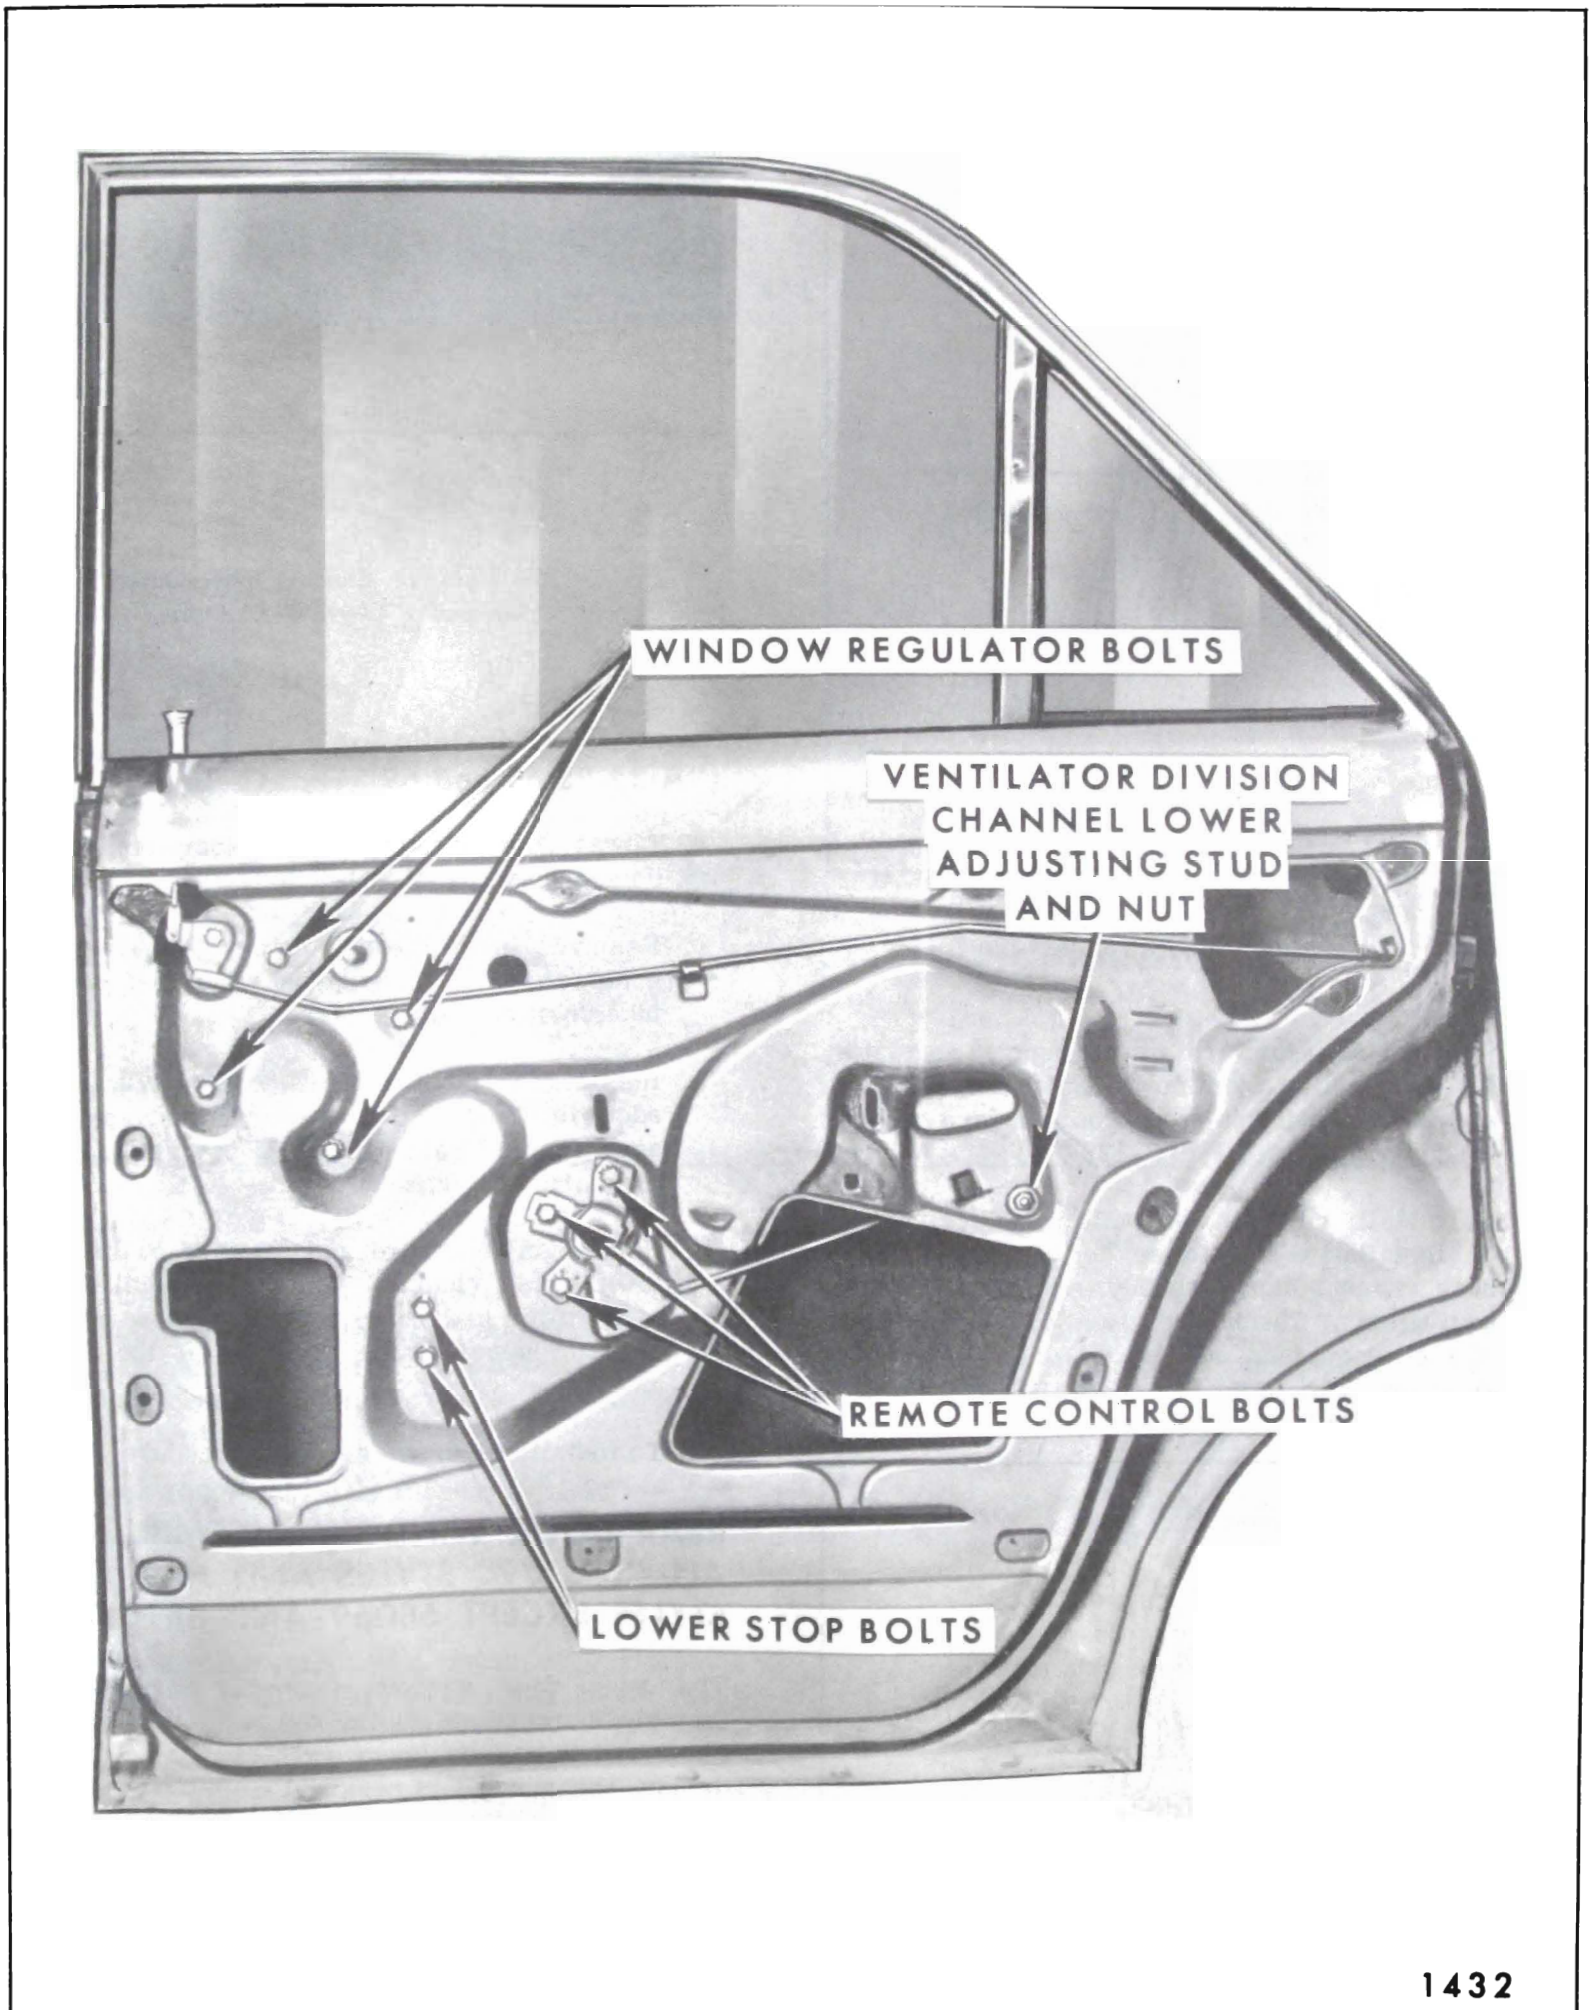

Fig. 7-128—Rear Door Hardware - "X-35 and 69" Styles
1. Remove door trim assembly and detach inner panel water deflector sufficiently to gain access to the lower adjusting stud and nut (see Fig. 7-128).
3. Remove stationary ventilator division channel (see Fig. 7-128).
- Slide glass rearward to disengage regulator lift arm roller from lower sash channel cam and remove window from door inboard of door window frame (see Fig. 7-128).